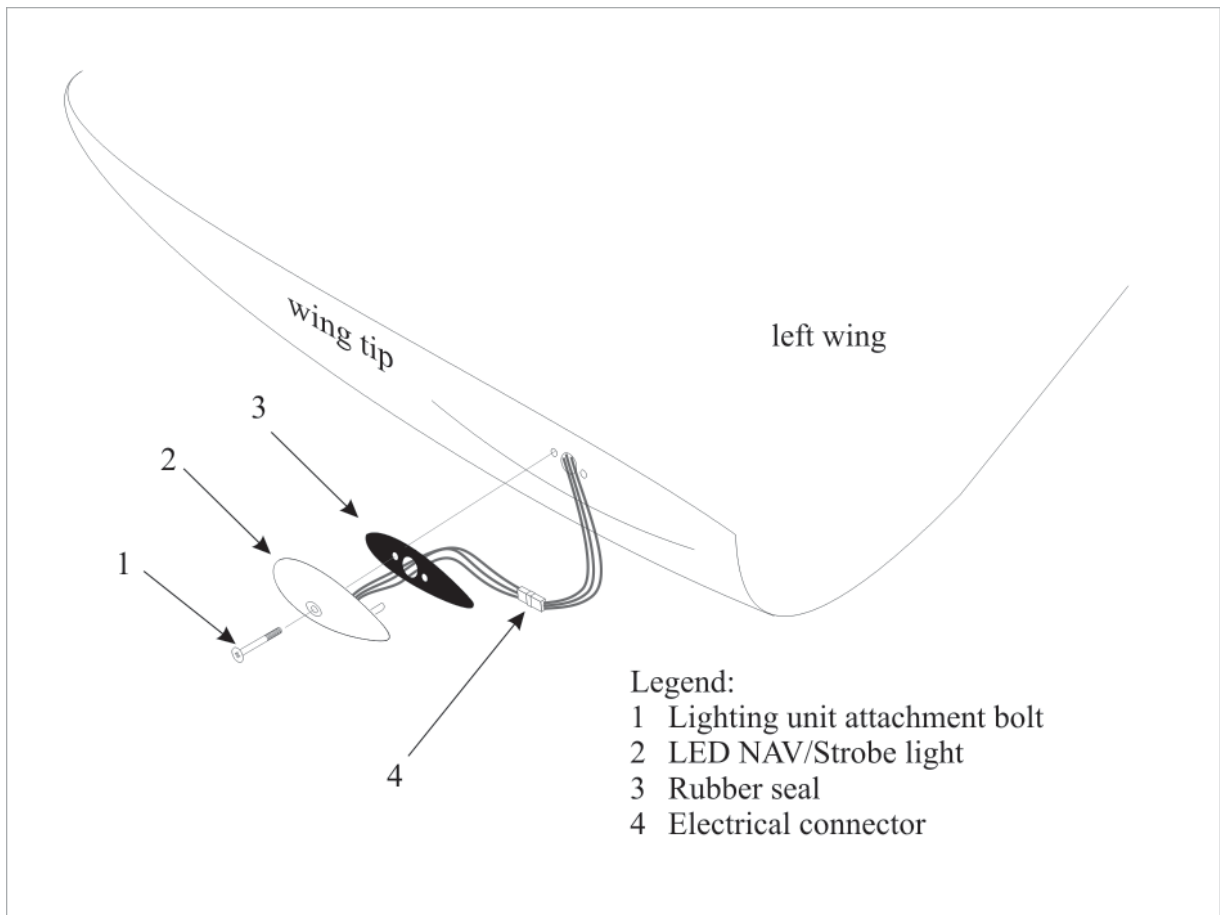

Figure 3
Refer to Figure 3. The lighting units (2) installed at the wing tips incorporate the red or green navigation LED lights on the forward section, a LED strobe light in the center and a clear tail position LED light on the aft section.
Refer to Figure 3.